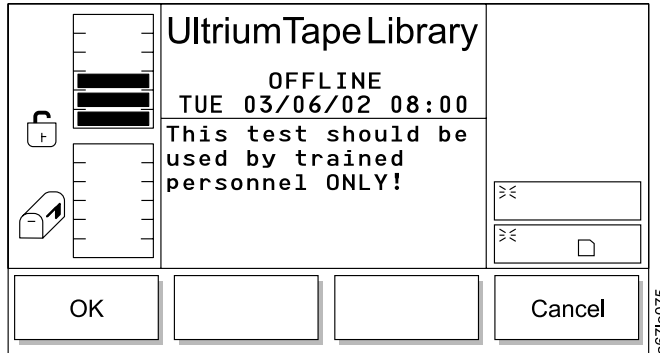

Figure 170. Step Dialog
- If **Step** is selected, the Step Dialog displays (see Figure 170 on page 138).